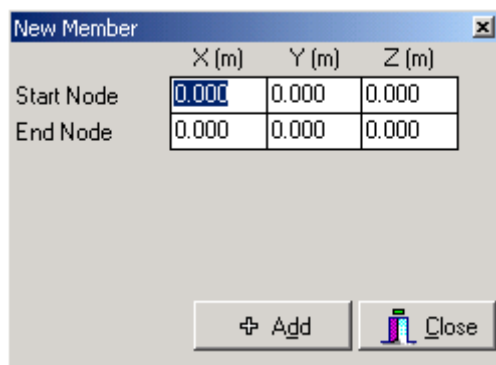

Figure 66 NEW MEMBER dialogue box
1. Choose the command Edit > New Member or the appropriate icon . The dialogue box on figure 66 will appear.